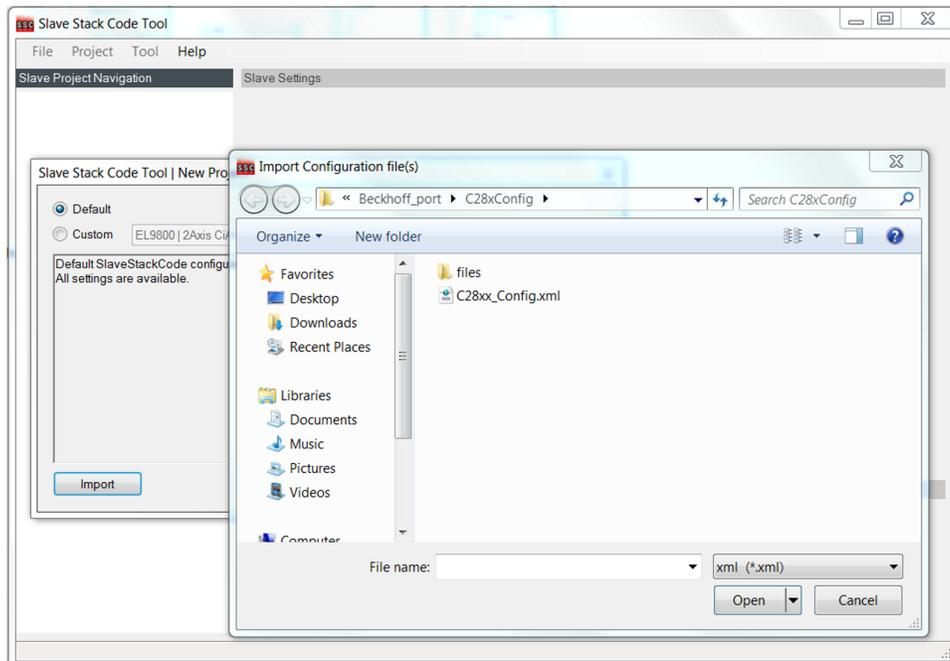

Figure 9. Import Configuration
2. Click Import, point to the C28xx_Config.xml, and then select Open (see Figure 9).